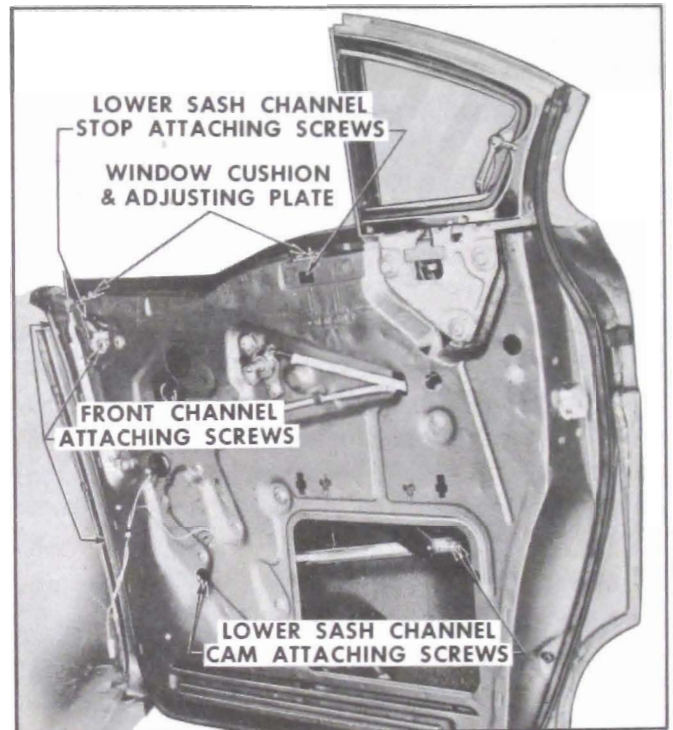

Figure 13-221—Removal of Rear Door Window
2. Through access holes, shown in Fig. 13-221, remove window lower sash channel front and rear stop attaching screws. Loosen screws securing front and rear cushion and adjusting plates and position assemblies inboard.
3. Loosen window front channel assembly upper attaching screws, shown in Fig. 13-221.
4. Remove window lower sash channel cam attaching screws. (See Fig. 13-221), then disengage cam from window regulator arms and remove cam from door.